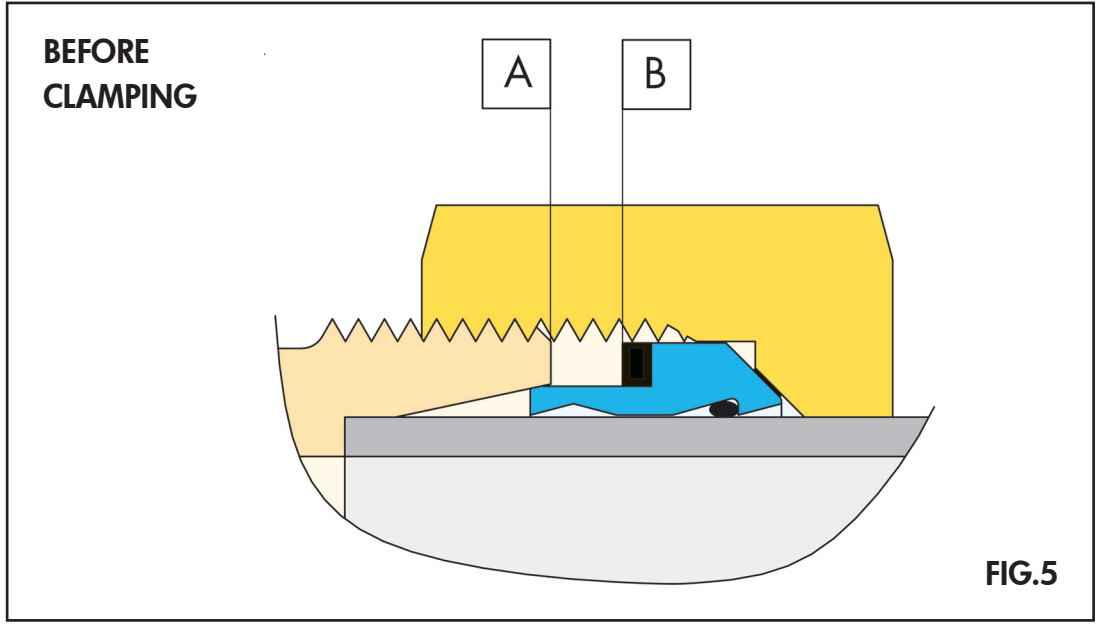

FIG.5
The automatic closing of the ring AR3/C on the fitting body occurs when the ring itself, as an effect of the nut tightening, slides on the 24° cone of the fitting body (Figure 5) until the 2 surfaces A and B come in contact forming one piece, so forcing the operator to stop the clamping.
- h.2) Tighten nut TN 81 till meeting a strong (sudden) resistance caused by the coupling of surfaces A – B (AUTOMATIC CLOSING). (Figure 5). Control that the tube is not turning with nut TN 81.